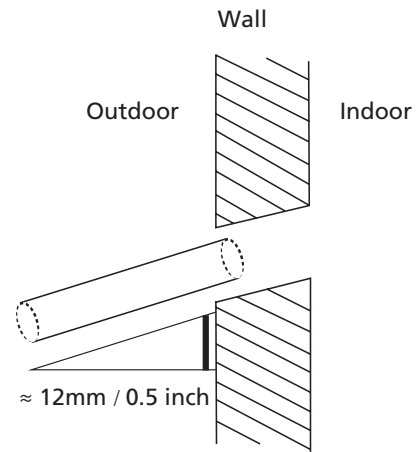

Fig. 5.5
3. Using a 65mm (2.56") or 90mm(3.54") core drill, drill a hole in the wall. Make sure that the hole is drilled at a slight downward angle, so that the outdoor end of the hole is lower than the indoor end by about 12mm (0.5"). This will ensure proper water drainage (See Fig. 5.5). Place the protective wall cuff in the hole. This protects the edges of the hole and will help seal it when you finish the installation process.